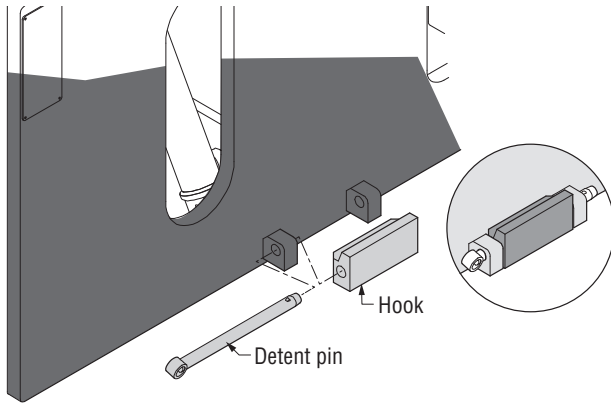

Figure 3-2, Lower Retaining Hook and Detent Pin
8. Install the lower retainer hooks (Figure 3-2). Inspect clearance to the carriage on lower hooks.
1. Slightly raise the truck carriage to allow the removal of the bottom mounting hooks. Pull retaining pins and remove lower retaining hooks. (Figure 3-2)